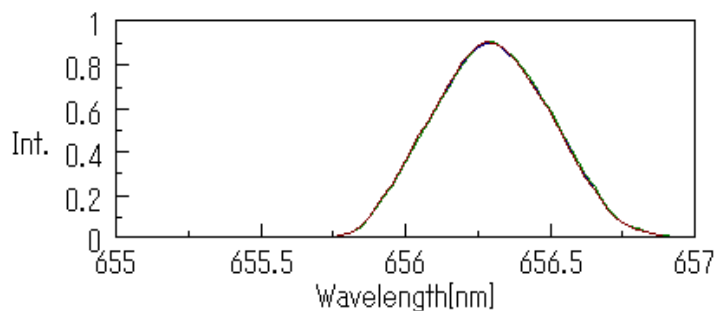

Figure 4.4 D₂ lamp spectra with an emission line at 656.1 nm
- (3) With the sample chamber empty, measure the spectrum of the D₂ lamp with an emission line at 656.1 nm three times.
- (4) Start [Spectra Analysis] from the [Spectra Manager] window and overlay the three spectra in a View (refer to the "Spectra Analysis Operation Manual"). An example is shown in Fig 4.4.
- (6) Measure the single beam spectrum with the sample chamber empty three times to obtain three D₂ lamp spectra with an emission line at 656.1 nm. A measurement example is shown in Fig 4.4.
- (7) The wavelength repeatability is normal if it is within the following criterion.